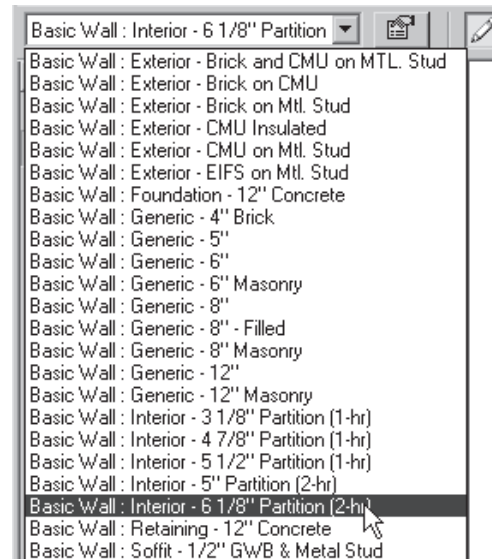

Figure 3-64 Selecting the interior wall type from the **Type Selector Bar**
- c. Select the **Basic Wall: Interior - 6 1/8" Partition (2-hr)** wall type, refer to Figure 3-64.
1. Click on the **Type Selector Bar** to display the walls available in Autodesk Revit Architecture. Choose **Basic Wall: Interior - 6 1/8" Partition (2-hr)**, as shown in Figure 3-64.